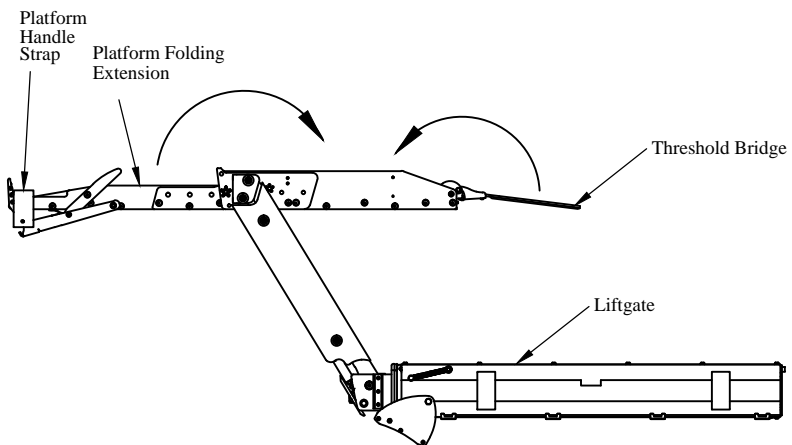

Figure 3: Platform.
- Step 3.** Lower the threshold bridge onto the platform and fold the platform extension using the handle strap (Figure 3).